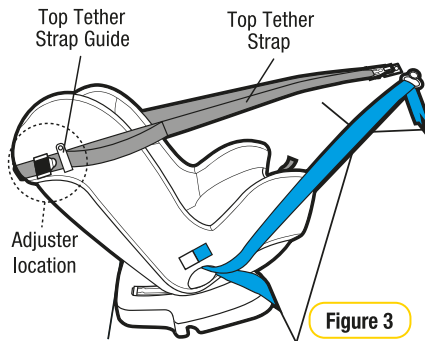

Figure 3
- Step 3:** Locate the adjuster at the side of the restraint and secure using the Top Tether Strap Guide (refer Figure 3).